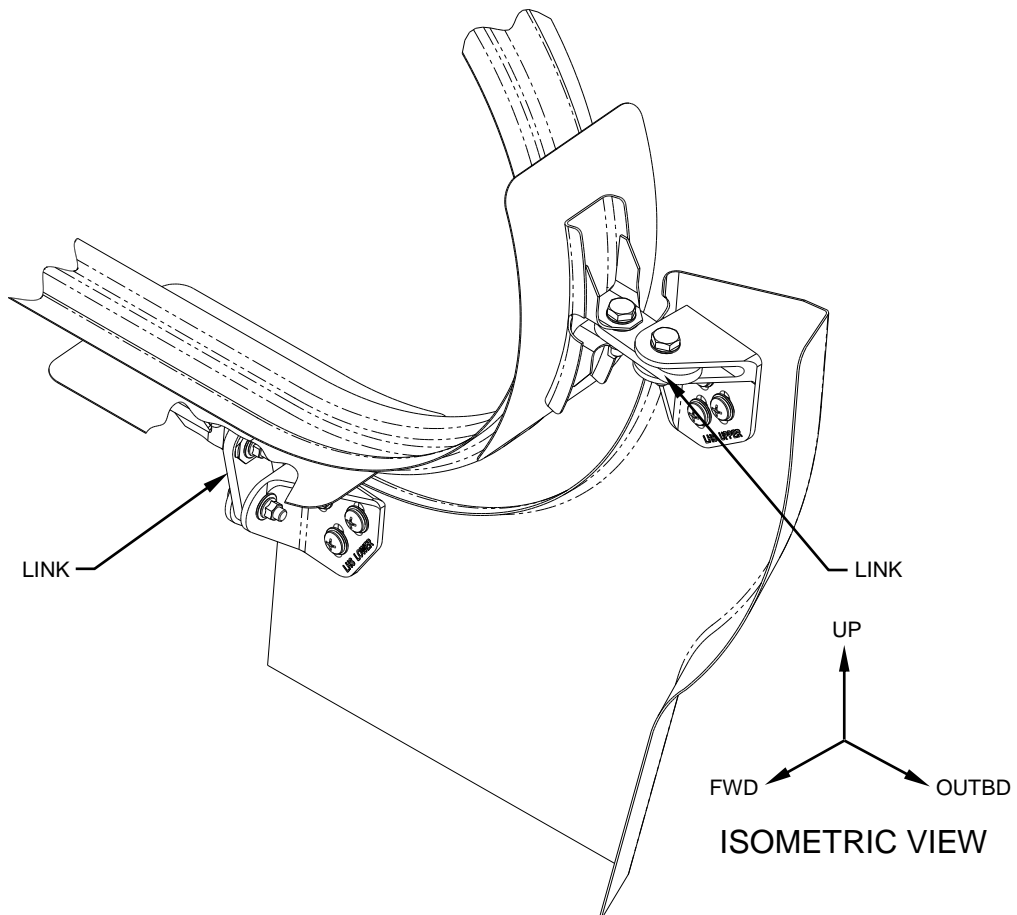

Figure 2A
3. Detach the Exhaust Ejector links from the LHS Exhaust Ejector. Reference Figure 2a.